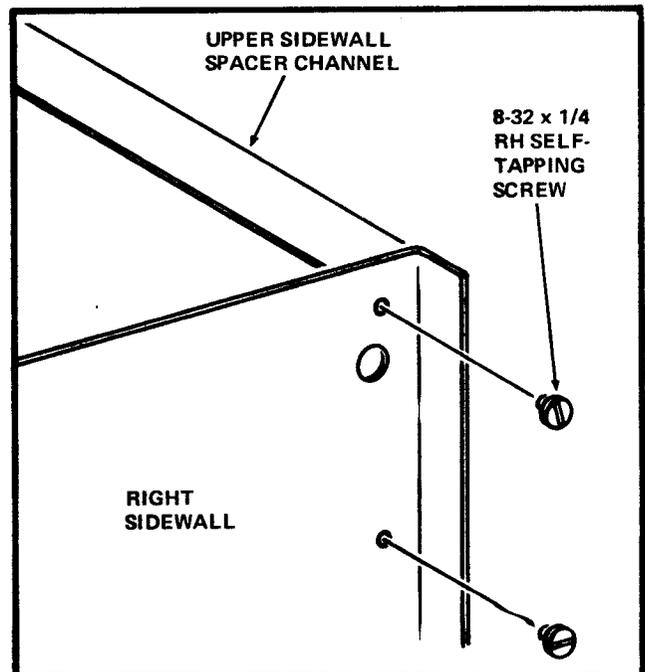

FIGURE 4
11. Remove the 2 No.8-32 x 1/4" RH Self-tapping Screws which attach the Right Sidewall to the upper Sidewall Spacer Channel. See Figure 4.